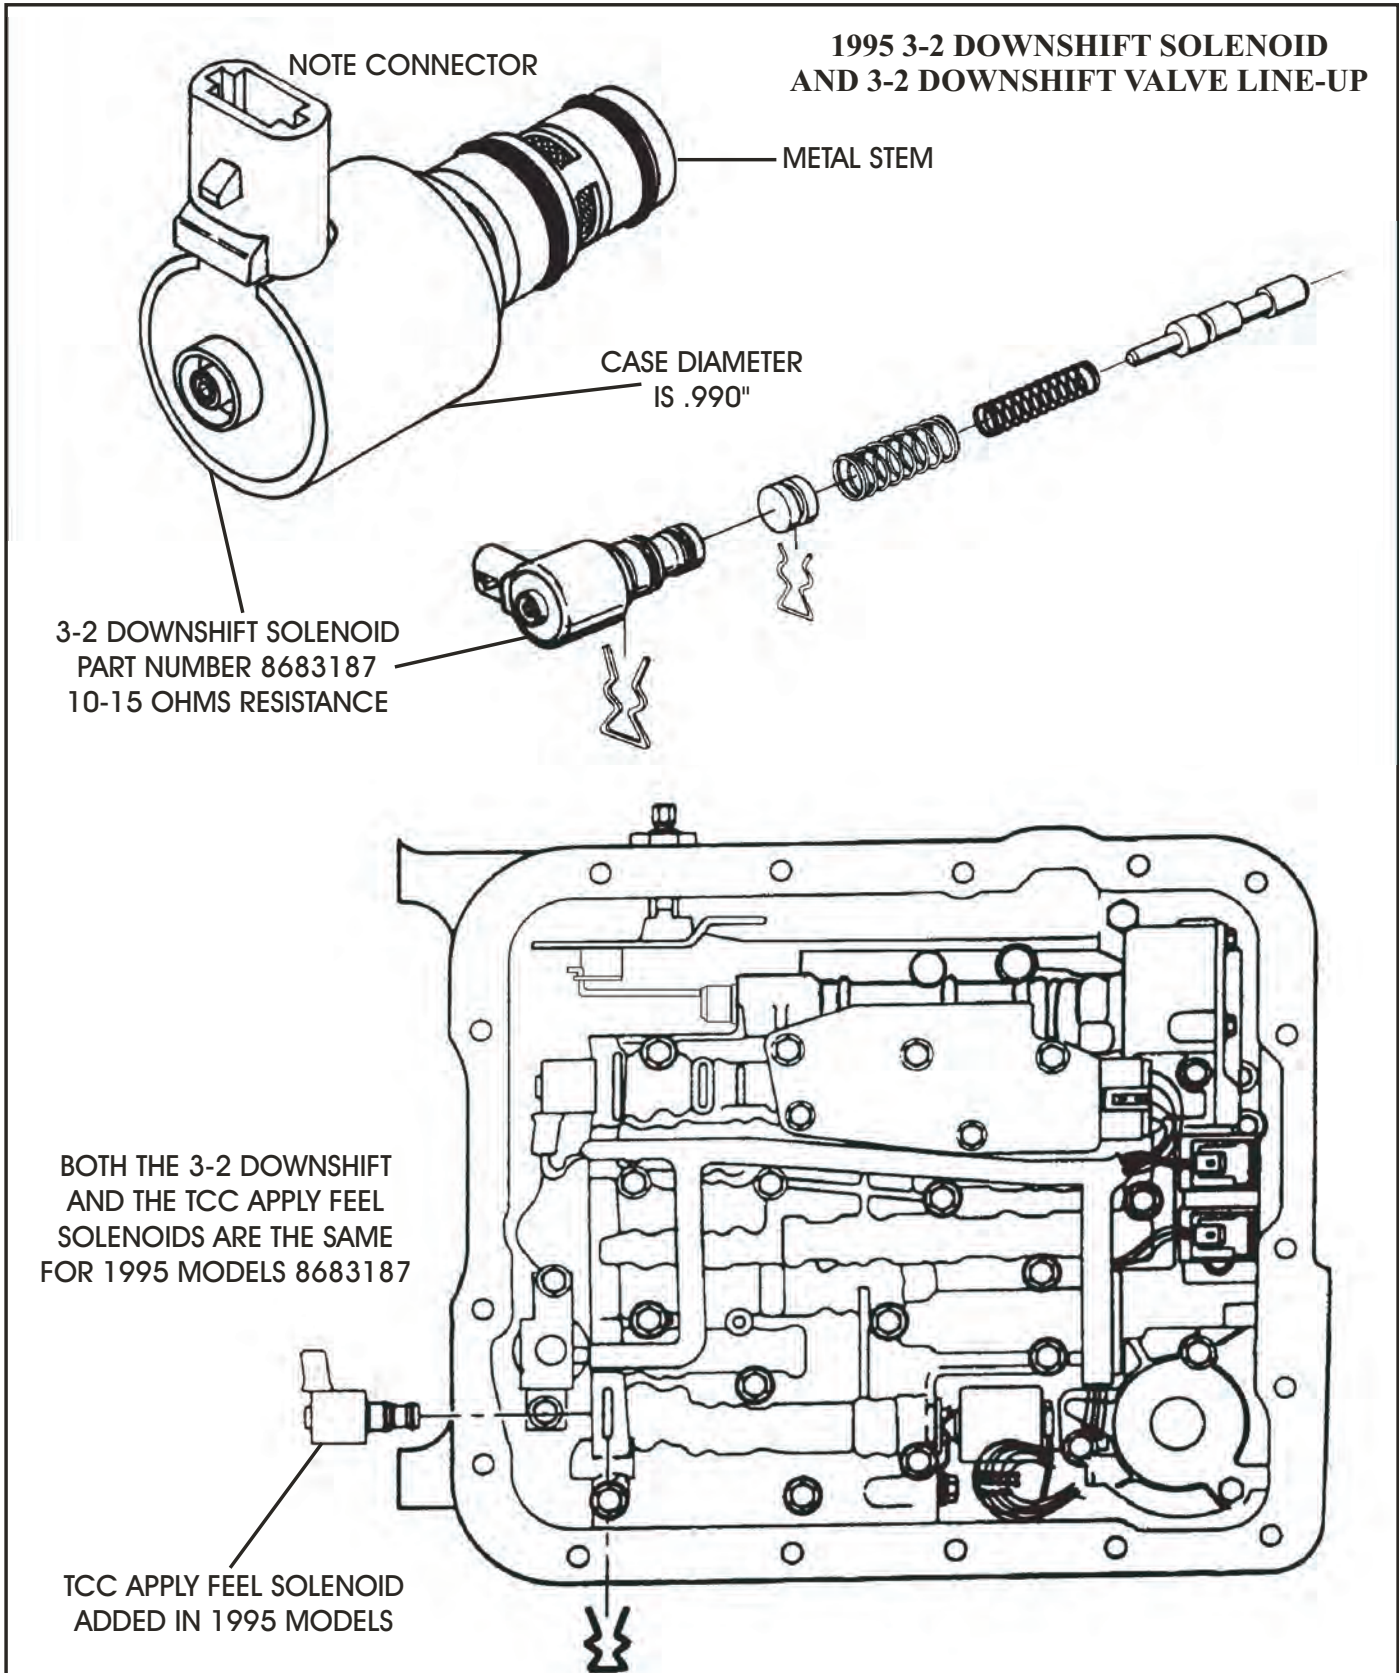

Figure 1
The solenoid connector was also changed to prevent the solenoids from being accidentally installed in the wrong models. Refer to Figure 1 for 1995 models, and Figure 2 for 1996 models.
- (2) 3-2 DOWNSHIFT VALVE - The entire 3-2 downshift valve line-up changes to accommodate the new design "On-Off" 3-2 downshift solenoid. Refer to Figure 1 for 1995 models, and Figure 2 for 1996 models.